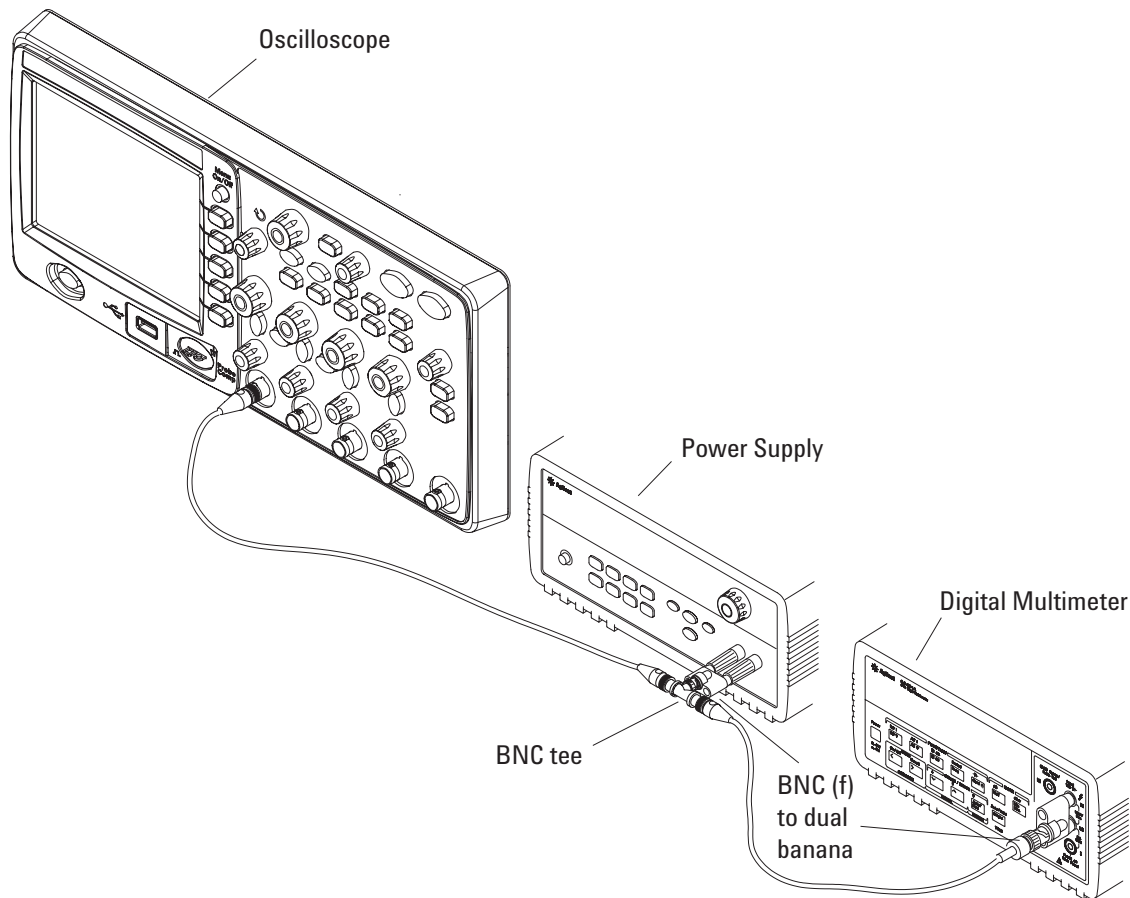

Figure 2 Connecting Equipment for DC Gain Accuracy Test
- 9 Connect the equipment as shown in Figure 2.